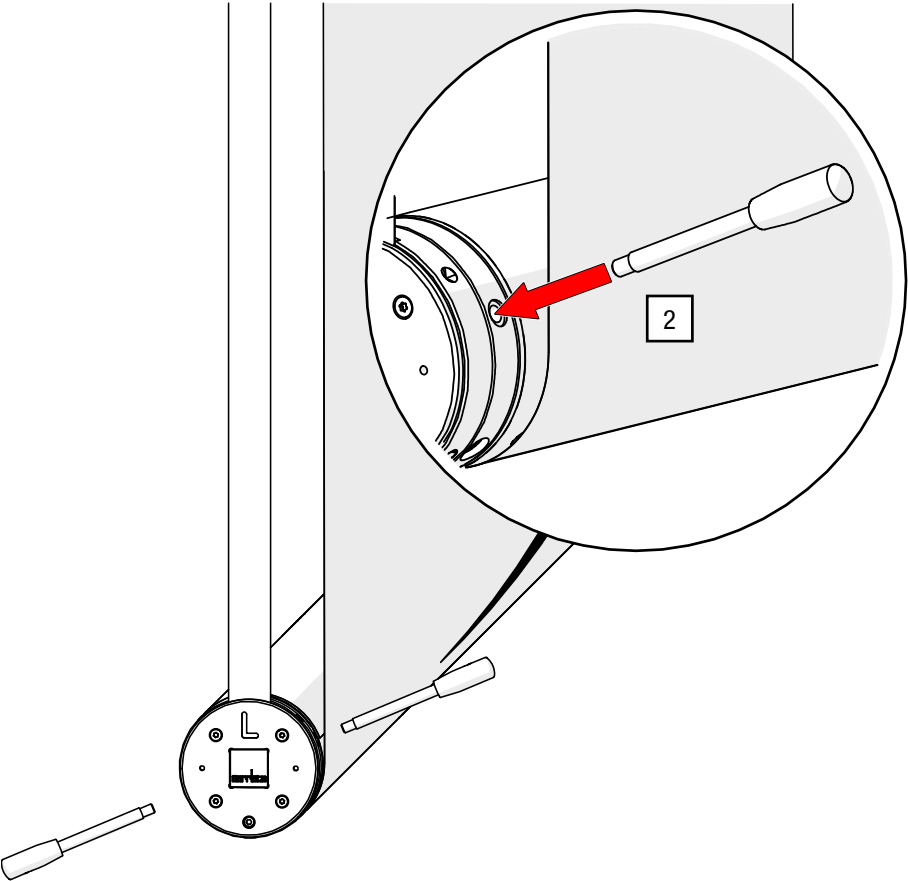

Fig. 30: Fixing the clamping levers to the clamping ring
2. Fix two clamping levers (e.g. an M12 screw or Ganter clamping lever – not included in the scope of delivery) hand-tight in the M12 threaded holes provided on the clamping ring (see Fig. 30).